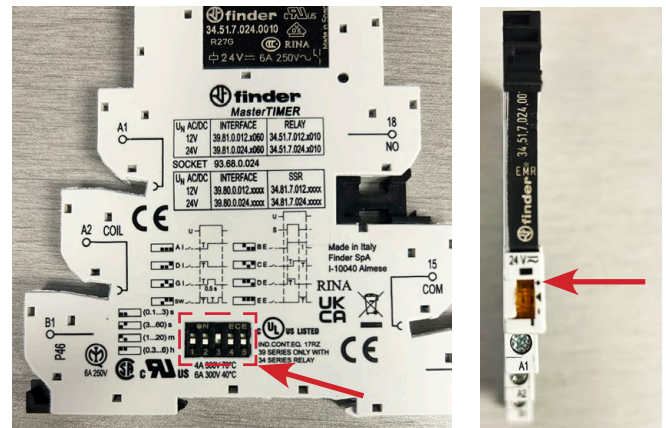

Figure 4
1. Verify the timer relay switch positions are as follows (see *Figure 4*):